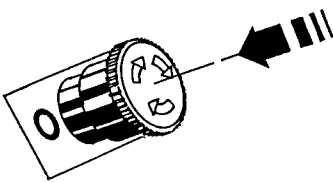

Figure 11
- Red emergency stop button pressed (figure 11)